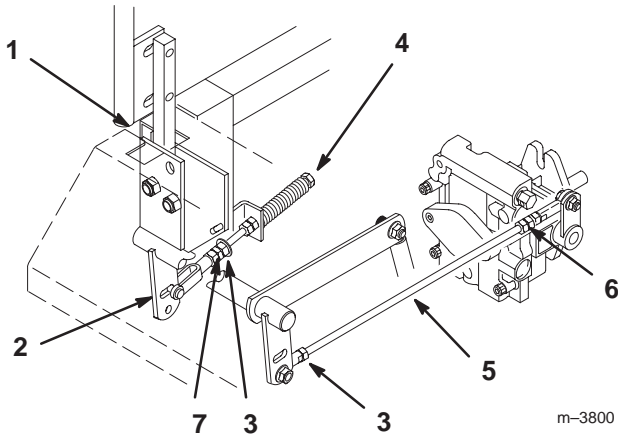

Figure 46
2. Begin with either the left or right motion control lever. Move the lever to the neutral (but not locked) position and pull the lever back until the clevis pin (on the arm below the pivot shaft) contacts the end of the slot (just beginning to put pressure on the spring) (Fig. 46).
3. Check where the lever is relative to the notch in the console. It should be centered allowing the lever to pivot outward to the neutral lock position (Fig. 46).
- Loosen the locknut at the ball joint on the pump control rod (Fig. 46).
- Adjust the pump rod length by rotating the double nuts on the rod, in the appropriate direction, until the wheel is still or slightly creeps in reverse (Fig. 46).